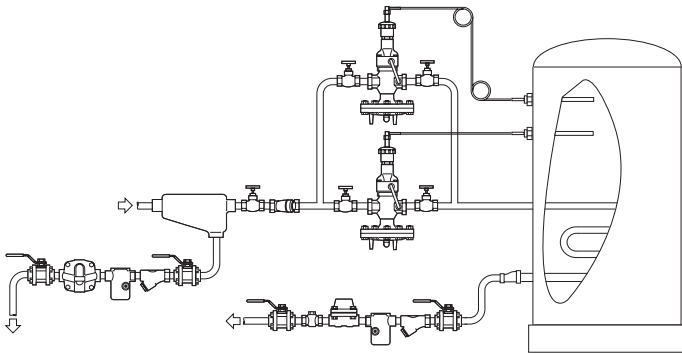

Fig. 1 Temperature Control of Warm-up and Running Loads at Storage Tank
1. A bypass connection, as shown in Figs. 1 and 2, is recommended so that the valve can be serviced without shutting down the equipment.
To insure proper operation of the valve and avoid premature wear, it is recommended that a steam trap be installed on the steam supply line. (See Figs. 1 and 2.)
1. It is strongly recommended that strainers be installed before the temperature regulating valve and steam traps. (See Figs. 1 and 2.)